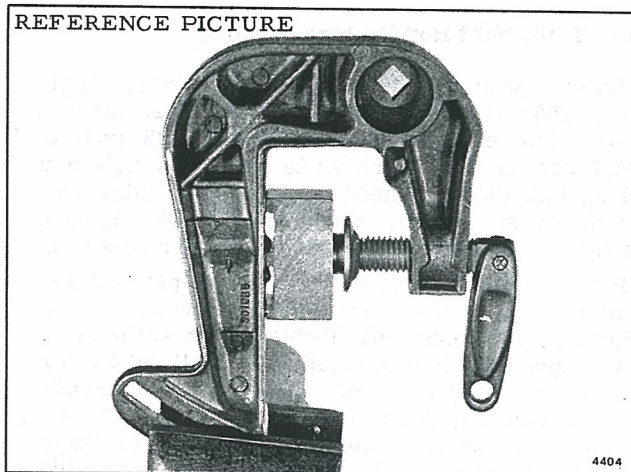

Figure 6-17. Clamp Screw Button Fixture
i. Inspect stern brackets for distortion and cracks, and replace if damaged. Bent, worn, or missing clamp screw plates can be replaced, using Clamp Screw Button Retainer Assembly (Special Tool #302435). See Figure 6-17.